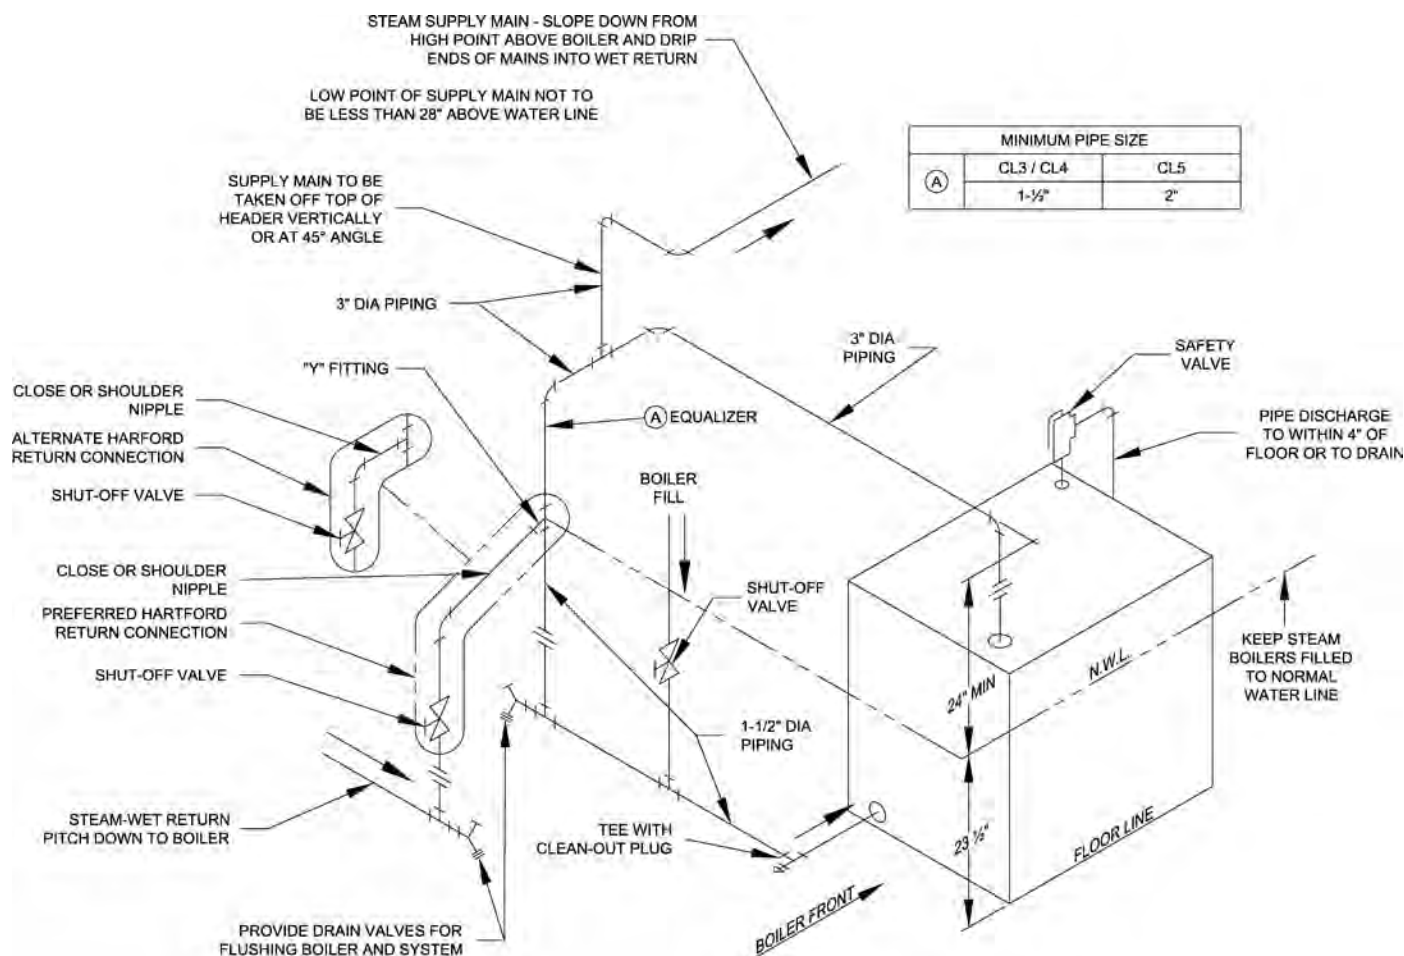

Figure 11: Recommended Boiler Piping For Gravity Return Steam Boiler
in left rear corner on top of boiler as shown in Figure 1C. Tighten with wrench. Pipe discharge as shown in Figure 11. Installation of the relief valve must be consistent with ANSI/ASME Boiler and Pressure Vessel Code, Section IV.
2. Install $\frac{3}{4}$ " drain valve in wet return piping as shown in Figure 11.
- a. For Recommended STEAM BOILER PIPING refer to Figure 11. Also, consult I=B=R Installation and Piping Guides.